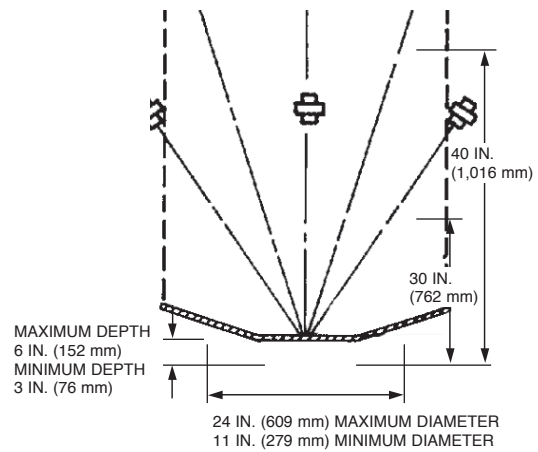

FIGURE 4-71
2. A 1N nozzle protects a wok 11 in. (279 mm) minimum diameter up to 24 in. (609 mm) maximum diameter. The wok depth must be no less than 3 in. (76 mm) and no greater than 6 in. (152 mm). The nozzle is stamped with 1N indicating that this a one-flow nozzle and must be counted as one flow number. When using this nozzle, the nozzle must be positioned anywhere along or within the perimeter of the wok, aimed at the center, 30 in. to 40 in. (762 mm to 1,016 mm) above the hazard surface, as shown in Figure 4-71.